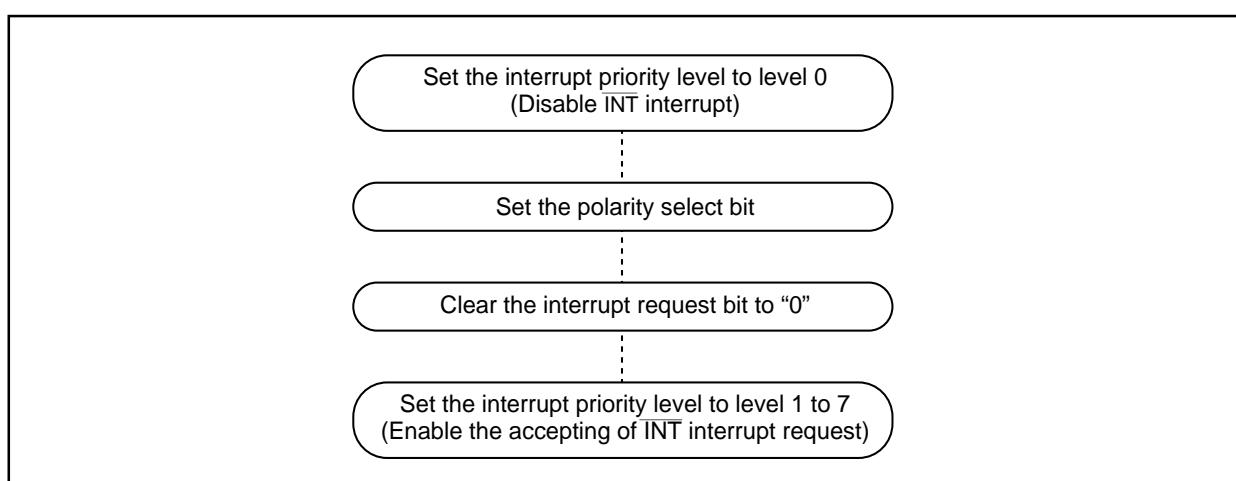

Figure 1.27.2. Switching condition of $\overline{\text{INT}}$ interrupt request
- When the polarity of the INT0 to INT5 pins is changed, the interrupt request bit is sometimes set to "1". After changing the polarity, set the interrupt request bit to "0". Figure 1.27.2 shows the procedure for changing the $\overline{\text{INT}}$ interrupt generate factor.